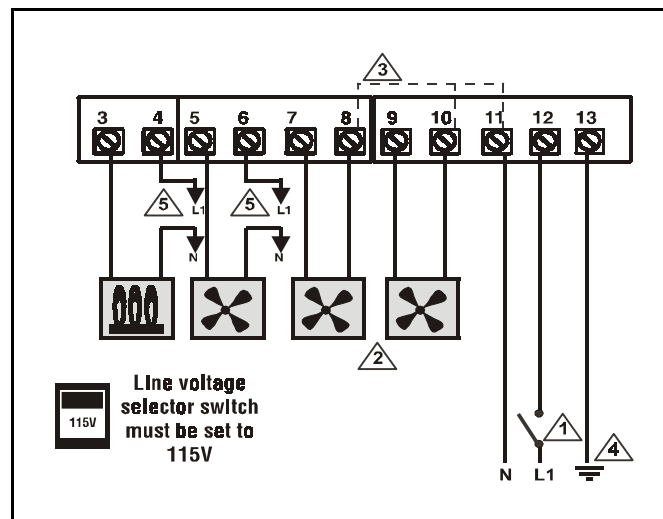

Fig. 1
Refer to Figures 1, 2, and 3.
For the connection procedures which follow refer to Figures 1 through 3.
**Notes for Figures 1, 2, and 3**